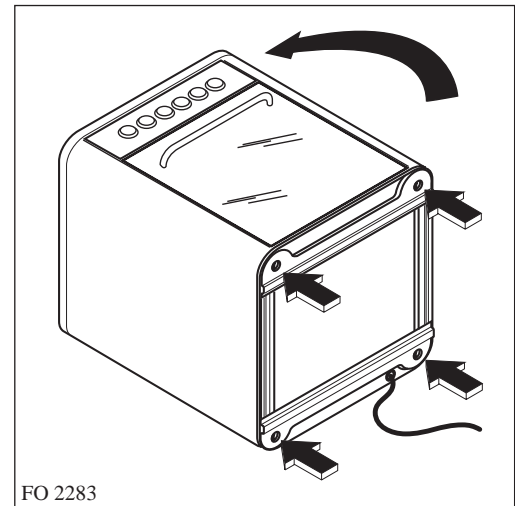

Fig. 1
2. Carefully lean the cooker on its back (Fig. 1), paying attention not to cause any damage.
4. Screw the feet into the relevant holes indicated in figure 1.